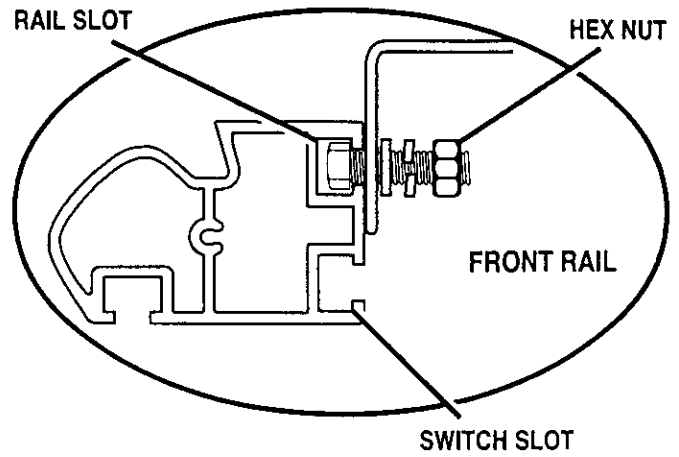

Fig. 7
- The back of the rail has two slots. *See Figure 7.* Carefully slide the upper slot over the bolts. (Bottom slot is for switch.)